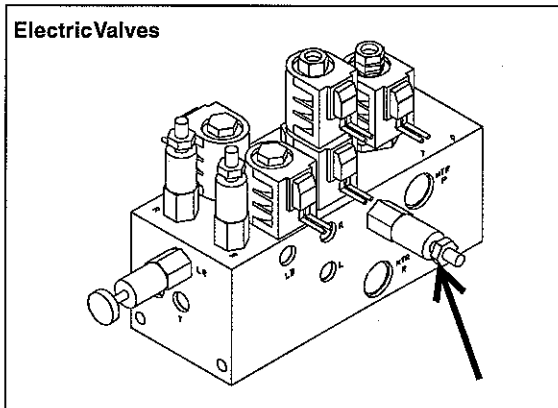

figure 37
8. **Electric Valves** – If the brush head assembly does not raise, tighten the lift/swing relief valve (figure 37) 1 turn at a time until the brush head assembly raises.